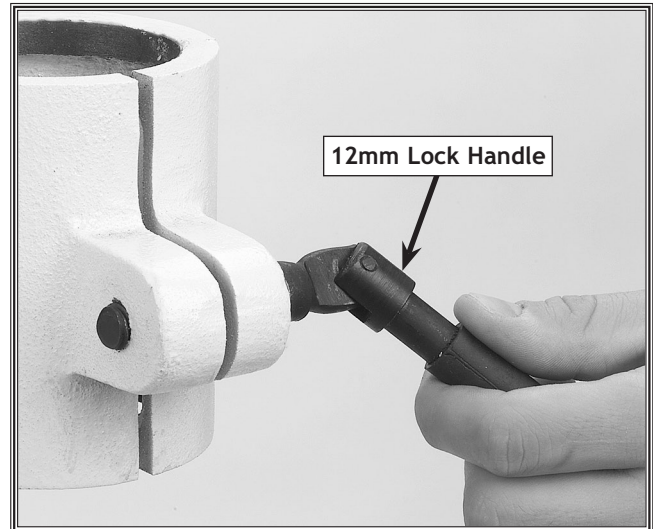

Figure 10. Loosely installing table lock lever.
1. Insert the 12mm lock handle into the table support bracket through the blind hole, into the threaded hole, and thread inward three turns, as shown in **Figure 10**.